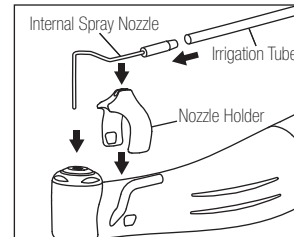

Fig. 7
- (2) Internal Spray Nozzle (Fig.7)